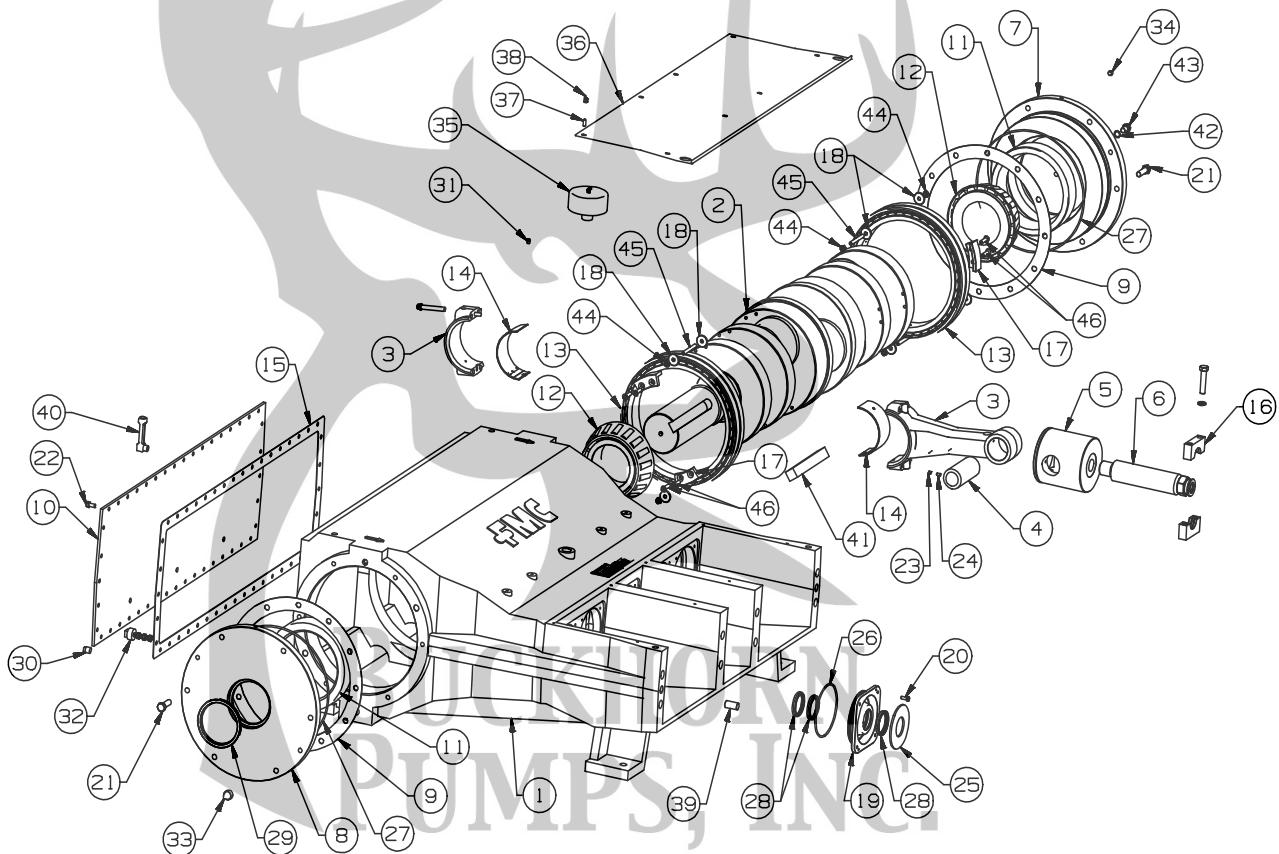
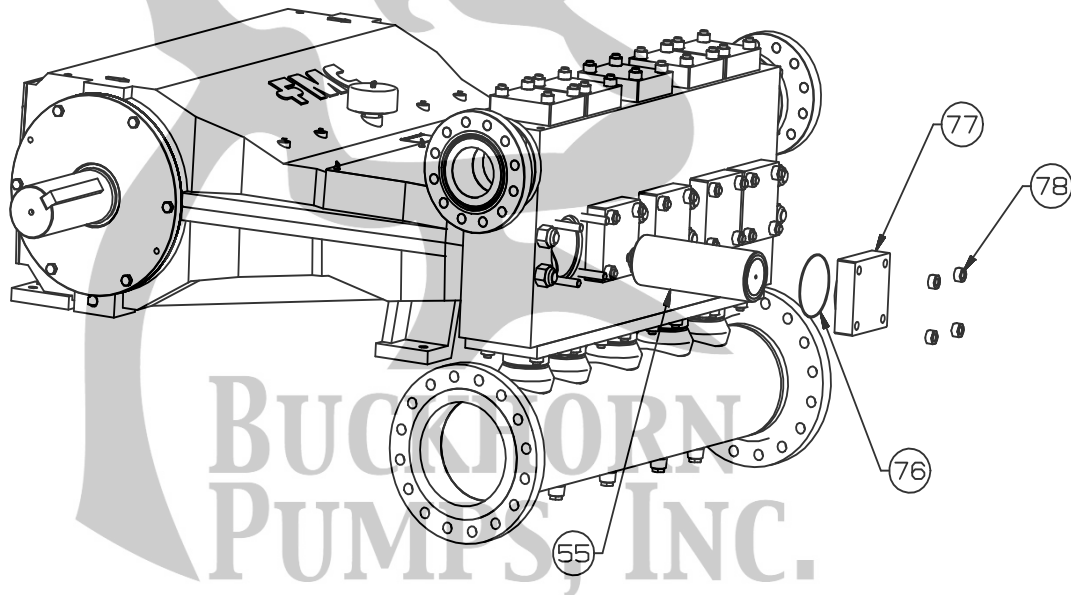

Figure 2: Power End Components
Figure 5: Plunger Removal through Front of Fluid Cylinder
Refer to Figures 2 and 3 for location of components.
2. Refer to Figure 2 through Figure 5 for location of components. Unbolt the plunger clamps (16) and remove them from the plungers (55) and plunger rods (6). Removal Tip 1: If the plunger does not separate from the plunger rod (stuck together), place a wrench extension or rod between the plunger and the power frame. Rotate the crankshaft to move the plunger rod away from the plunger.
3. Loosen the set screw (73) locking the threads on the adjusting nut (54). Turn the adjusting nut counterclockwise to loosen. Use caution if the packing (52) is spring loaded. The adjusting nut will come off suddenly from the stuffing box due to spring force.
4. Remove the nuts (71) holding the stuffing box or stuffing box clamps (51) to the fluid cylinder (47) to allow removal of the stuffing boxes from the fluid cylinder counterbore. Rotate the crankshaft (2) by hand until one of the plunger rods (6) is fully retracted from the plunger (55) and push the plunger forward into the stuffing box to provide adequate clearance for removal. Removal Tip 2: Backing the plunger rod away from the plunger and adding a short rod such as a wrench extension located between the plunger and plunger rod will push the plunger further into the stuffing box and fluid cylinder. It may be necessary to hit the stuffing boxes with a rubber mallet to free them from the counterbores.
5. Slide the plunger and stuffing box out of the cradle of the pump as a single unit. Repeat this procedure for the other four plunger and stuffing box assemblies. Be careful not to lose the o-rings (61) that seal the stuffing box.
6. An alternate method of removing the stuffing box assemblies is to remove the nuts (78) that hold the cylinder covers (77). With the covers off, remove the plungers (55) through the front of the fluid cylinder (47). Refer to Removal Tip 2 if the plunger is hard to move by hand. The stuffing box assemblies can then be removed through the cradle area of the pump. The advantage to this procedure is that the stuffing box assemblies are much lighter with the plungers removed. Refer to Figure 5 for an illustration of this technique.